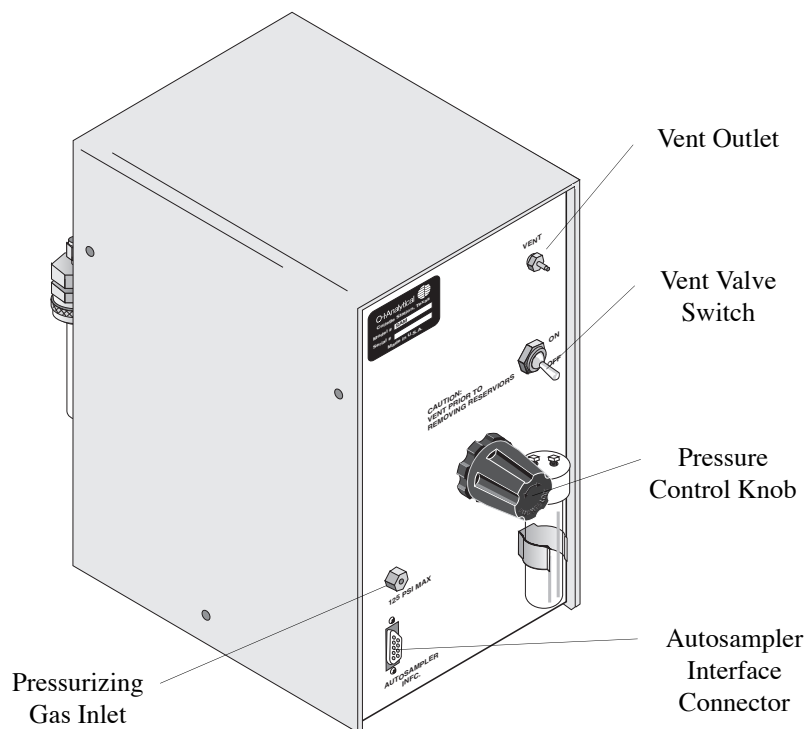

Figure 3.8. SAM Option, Back View
13. Turn on the vent valve switch on the SAM back panel, depicted in Figure 3.8.
14. Connect one end of the 1/16" stainless steel gas transfer tubing (PN 188466) to the pressurizing gas inlet on the SAM back panel, depicted in Figure 3.8.
- b. Plug the cable's other end into the autosampler interface connector on the SAM back panel, depicted in Figure 3.8.